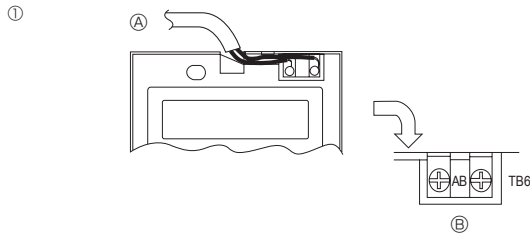

Fig. 5-7
2) Connecting procedures (Fig. 5-7)
- ① Connect the remote controller cord to the terminal block.